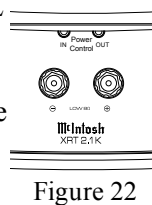

Figure 22
5. Connect a power control cable from Power Amplifier C POWER CONTROL OUT to the XRT2.1K POWER CONTROL IN. Refer to figure 22.